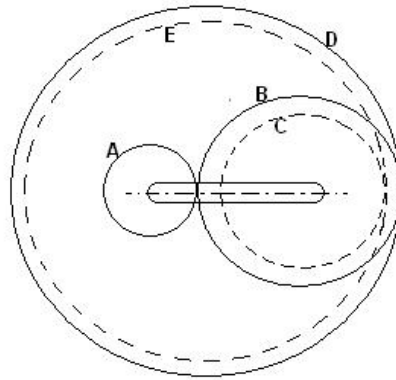

Fig. 3
- (b)** Fig. 3 shows an epicyclic gear train. Pinion A has 15 teeth and is rigidly fixed in motor shaft. The wheel B has 20 teeth and gears with A, and also with annular fixed wheel D. Pinion C has 15 teeth and is integral with B (C, B being a compound gear wheel). Gear C meshes with annular wheel E, which is keyed to the machine shaft. The arm rotates about the same shaft on which A is fixed and carries the compound wheel B, C. If the motor runs at 1000 rpm, find the speed of the machine shaft. Find the torque exerted on the machine shaft if motor develops a torque of 100 Nm. **07**